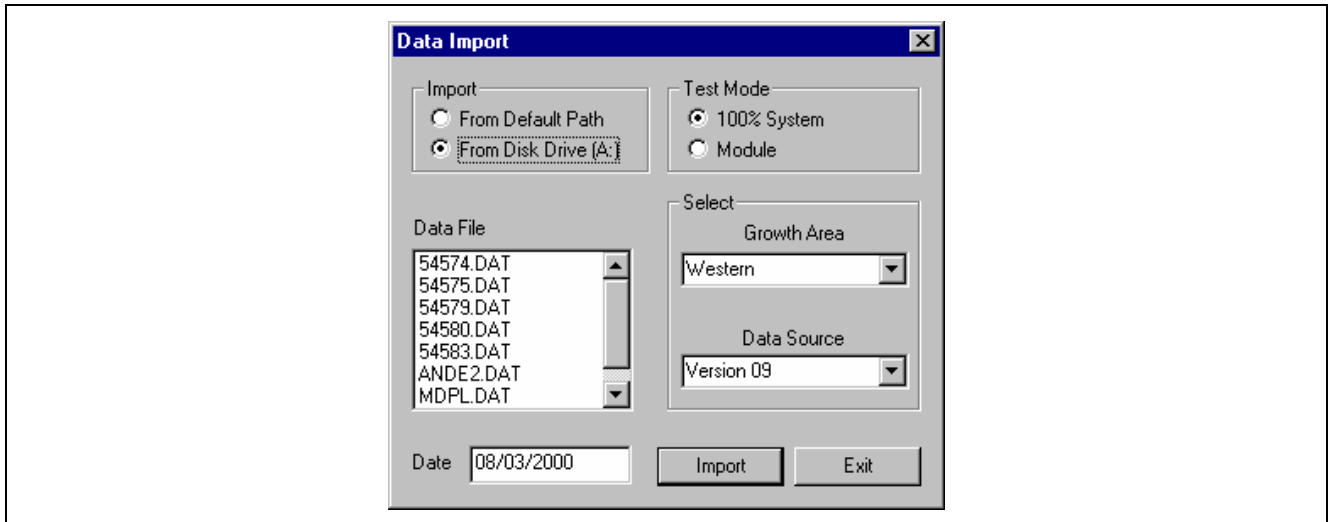

Fig. 6-34 Data Import, Screen III
10.5 Similar to Step 10.2, insert disk 2, ABC Yarns Western Growth Area disk in the A Drive. Under Growth Area select "Western". "100% System" and "Version 09" remain the same. Again, select "From Disk Drive A" and the window of Fig. 6-34 will appear.